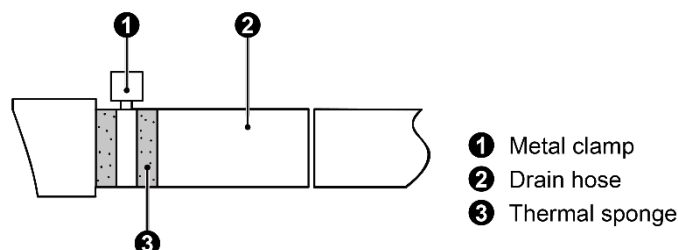

Fig.4.3.2
- (1) Insert the drain hose into the drain hole and tighten it with tapes, as shown in Fig.4.3.2. Model with water pump will be provided with drain hose, while other models please prepare the drain hose by yourself.
- (2) Tighten the pipe clamp, with the distance between screw nut and hose smaller than 4mm.